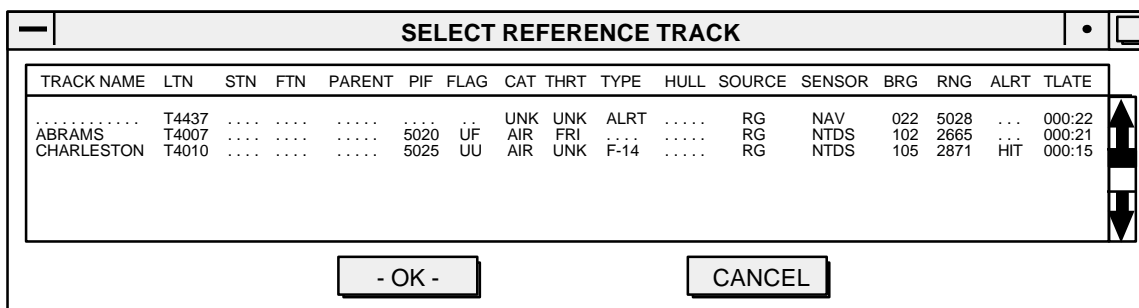

Figure 10.12-1 Select Reference Track Window
2. If a group of tracks is selected from the tactical display or by using DATABASE SEARCH, the SELECT REFERENCE TRACK window appears (Figure 10.12-1).